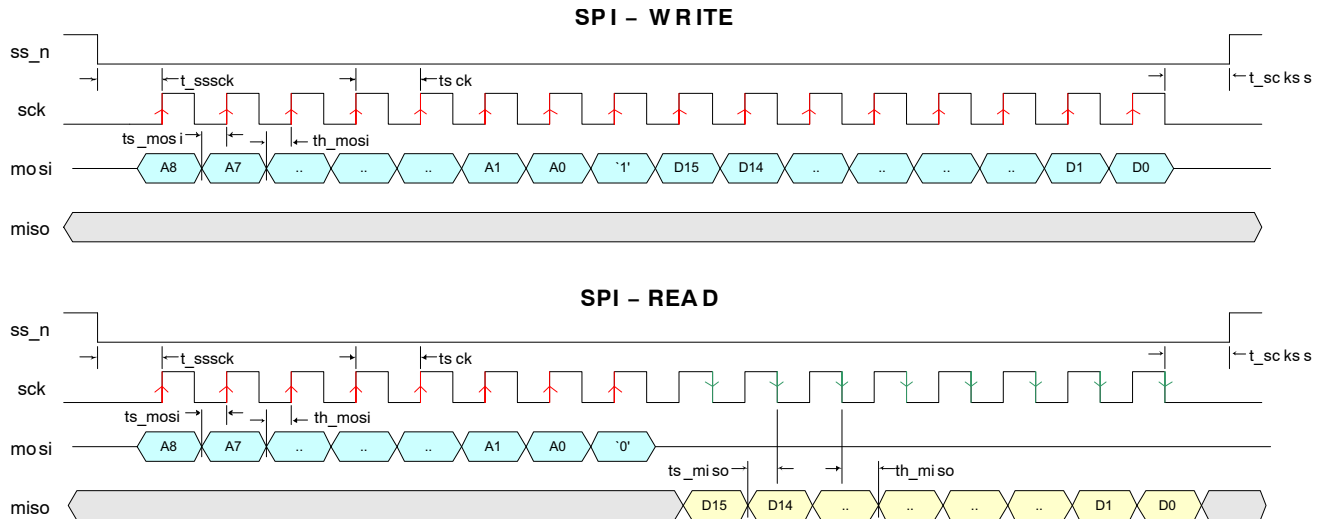

Figure 17. SPI Read and Write Timing Diagram
Figure 17 shows the communication protocol for read and write accesses of the SPI registers. The VITA 25K sensor uses 9-bit addresses and 16-bit data words
Data driven by the system is colored blue in Figure 17, while data driven by the sensor is colored yellow. The data in grey indicates high-Z periods on the miso interface. Red markers indicate sampling points for the sensor (mosi sampling); green markers indicate sampling points for the system (miso sampling during read operations).
- significant bit first. The sck clock is passed through to the sensor as indicated in Figure 17. The sensor samples this data on a rising edge of the sck clock (mosi needs to be driven by the system on the falling edge of the sck clock)